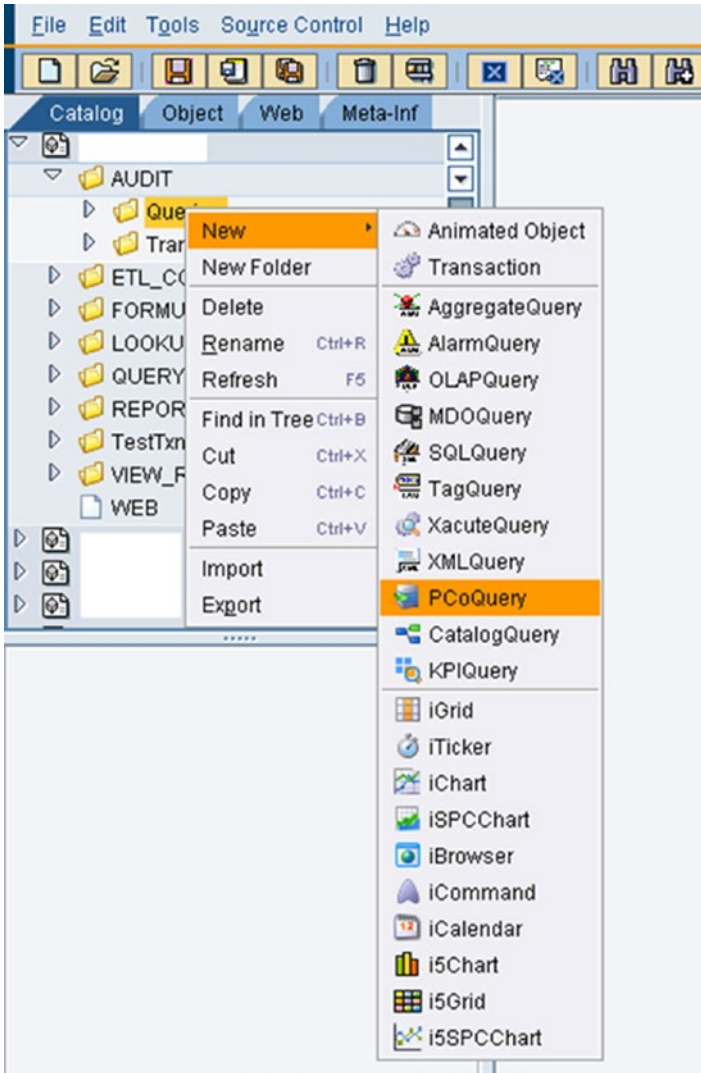

Figure 6-25. Creating a PCo query template
1. From the Catalog tab, select a project, then right-click and select New ► PCoQuery, as shown in Figure 6-25.